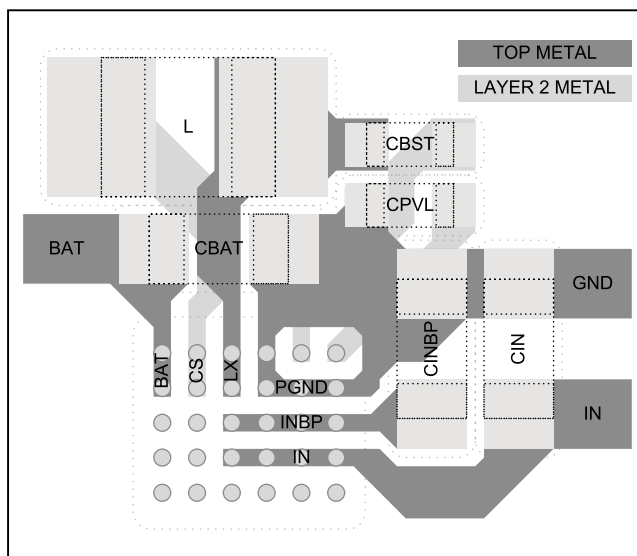
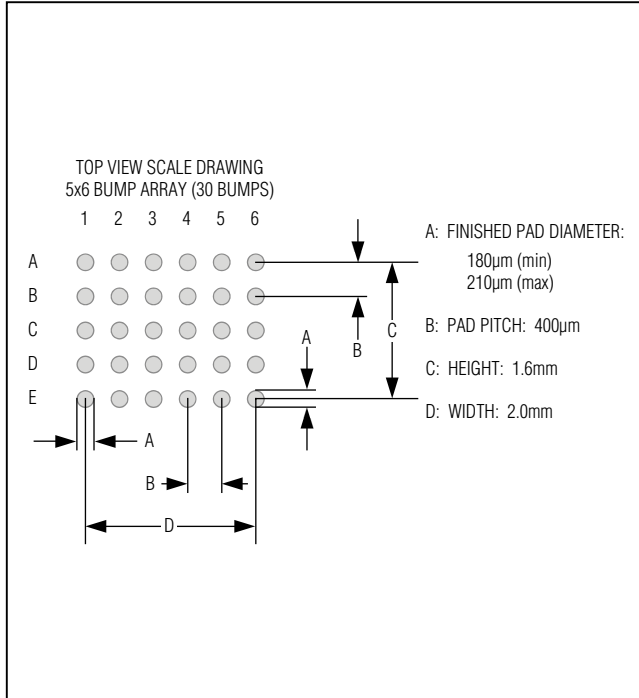
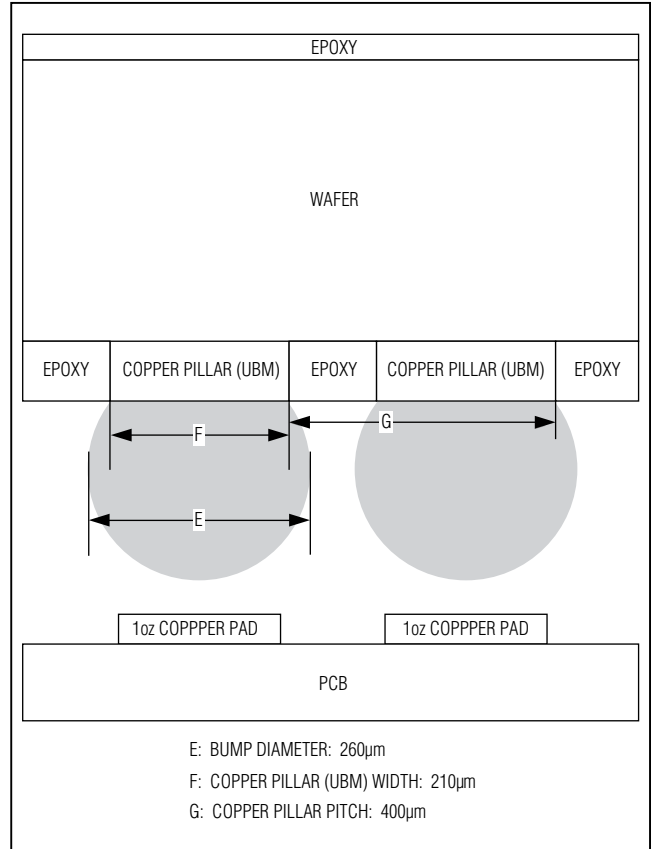

Figure 14. Power PCB Layout Example
Figure 15. Recommended Land Pattern
Figure 16. Bump Cross Section and Copper Pillar Detail
Figure 15 shows the recommended land pattern for the MAX8900_. Figure 16 shows the cross section of the MAX8900_'s bump with detail of the under-bump metal (UBM). The diameter of each pad in the land pattern is close to the diameter of the UBM. This land pattern to UBM relationship is important to get the proper reflow of each solder bump.
Careful printed circuit layout is important for minimizing ground bounce and noise. Figure 14 is an example layout of the critical power components for the MAX8900_. The arrangement of the components that are not shown in Figure 14 is less critical. Refer to the MAX8900 Evaluation Kit for a complete PCB layout example. Use the following list of guidelines in addition to Application Note 1891: *Wafer-Level Packaging (WLP) and Its Applications* (www.maximintegrated.com/ucsp) to layout the MAX8900_ PCB.
- 5) In Figure 14, the CS node is connected to the second layer of metal with vias. Use low-impedance vias that are capable of handling 1.5A of current. Also, keep the routing inductor current path on layer 2 just underneath the inductor current path on layer 1 to minimize impedance.
- 6) Both C_{BST} and C_{PVL} deliver current pulses for the MAX8900's MOSFET drivers. These components should be placed as shown in Figure 14 to minimize parasitic impedance.
In Figure 14, many of the top layer bump pads are connected together in top metal. When connecting bumps together with top layer metal, the solder mask must define the pads from 180 μm to 210 μm as shown in Figure 15. When using solder mask defined pads, please double check the solder mask openings on the PCB Gerber files before ordering boards as some PCB layout tools have configuration settings that automatically oversize solder mask openings. Also, explain in the PCB fabrication notes that the solder mask is not to be modified. Occasionally, optimization tools are used at the PCB fabrication house that modify solder masks. Layouts that do not use solder mask defined pads are possible. When using these layouts, adhere to the recommendations A through G above.